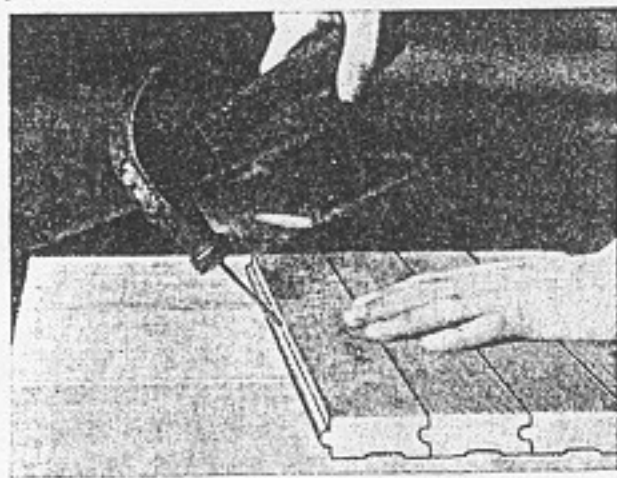
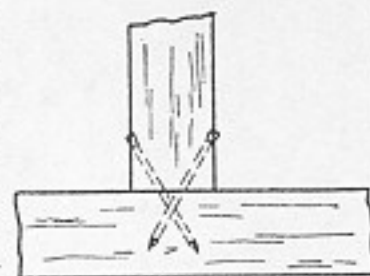

Fig. 279. Nailing flooring.
Fig. 285. Toenailing.
some cases, as in toenailing (Fig. 285) and in nailing floors (Fig. 279), nails are driven at an angle.
11. When the end of one piece is nailed to the side of another and the nails are driven obliquely, the piece is said to be "toenailed" (Fig. 285).